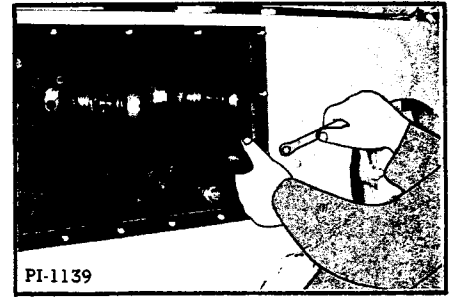
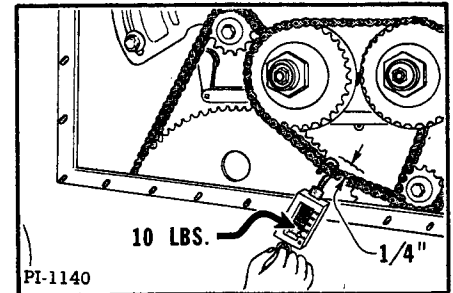

Fig. 46 Tightening Clutch Drive Chain
Fig. 47 Checking Clutch Drive Chain
9. Reinstall the clutch drive chain. Tighten the chain hand tight (Figure 46). You should be able to deflect the chain 1/4" using 10 lbs. of spring scale tension (Figure 47).
10. Reinstall the clutch drive chain. Tighten the chain hand tight (Figure 46). You should be able to deflect the chain 1/4" using 10 lbs. of spring scale tension (Figure 47).